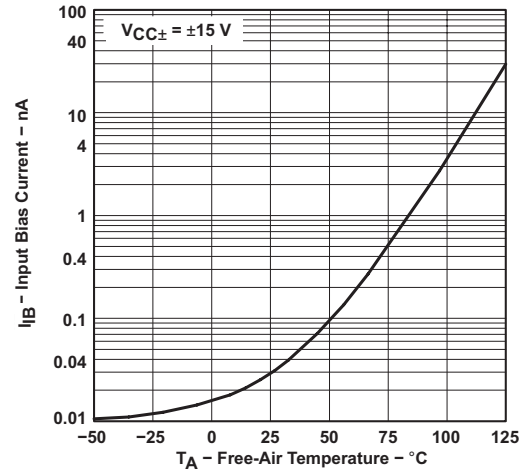

Figure 12. Input Bias Current vs Free-Air Temperature
- (1) All characteristics are measured under open-loop conditions with zero common-mode input voltage, unless otherwise specified. Full range for T_A is 0°C to 70°C for TL06xC, TL06xAC, and TL06xBC and -40°C to 85°C for TL06xl.
- (2) Input bias currents of an FET-input operational amplifier are normal junction reverse currents, which are temperature sensitive, as shown in Figure 12. Pulse techniques are used to maintain the junction temperature as close to the ambient temperature as possible.
- (1) All characteristics are measured under open-loop conditions, with zero common-mode voltage, unless otherwise specified.
- (2) This parameter is not production tested.
- (3) Input bias currents of an FET-input operational amplifier are normal junction reverse currents, which are temperature sensitive, as shown in Figure 12. Pulse techniques are used to maintain the junction temperature as close to the ambient temperature as possible.
Input bias current versus Free-air temperature	Figure 12